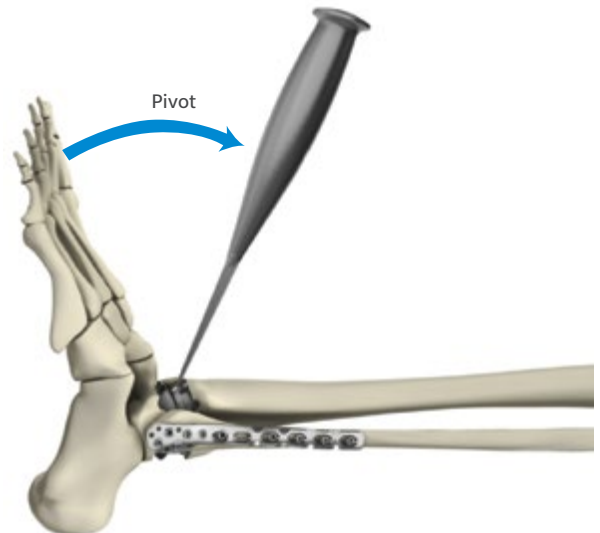

Fig. 102
- Apply a prying force by pivoting the handle on the Osteotome proximally to disengage the lock (Fig. 102).